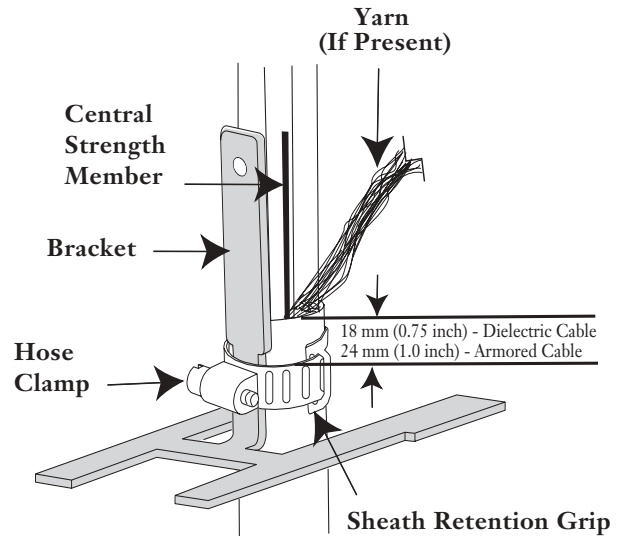

Figure 7 — Strain-relief Bracket
- Step 1** Place hose clamp over the cable and bracket 18 mm (0.75 inch) below the sheath end (Figure 7). Center the sheath retention grip on the opposite side of the cable from the hose clamp tensioning body.
- Step 2** Tighten the hose clamp in the notch on the bracket with the tensioning body on the hose clamp against the bracket (Figure 7). Tighten hose clamp to a torque value of 30 in-lb.
- Step 1** Trim the central strength member(s) flush with the top of the strain-relief bracket (Figure 7).